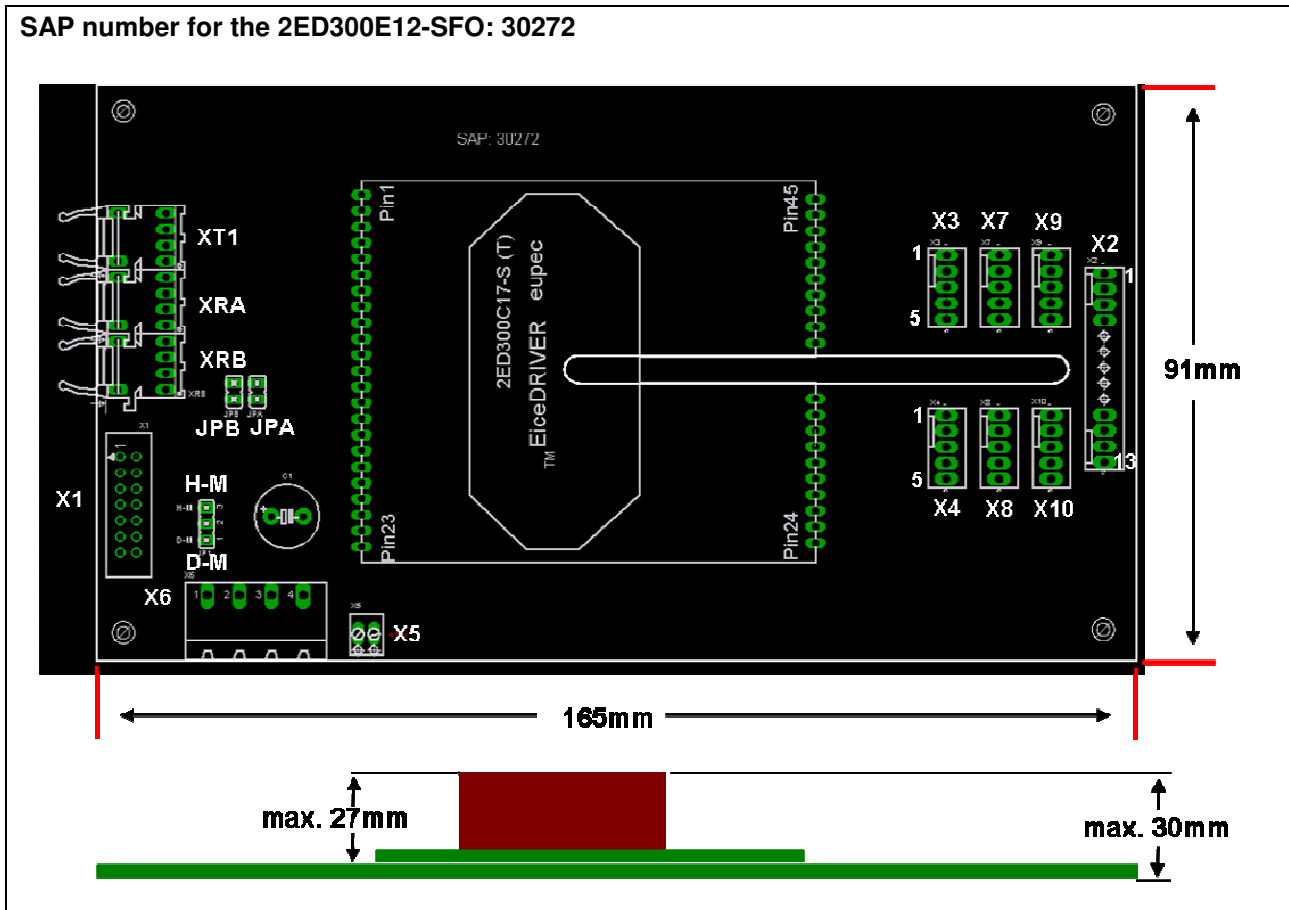

Figure 3 Dimensions of the 2ED300E17-SFO
The 2ED300E17-SFO outline assembled with driver is shown in Figure 3.
Electrical interface is simply activated by applying suitable signals1 to appropriate pins in connector X1 as described in chapter 2.4, Table 4 and Table 5. Jumpers JPA and JPB visible on Figure 3 in that mode must be open.
When IGBT is driven using optical interface the fiber optic cables should be connected to receiver XRA in order to drive channel A and respectively XRB to drive channel B. Jumpers JPA and JPB in that case must be closed (Figure 3). No electrical signals except power supply connected to X1 are needed. Other connections should be removed. Keeping power supply connected to X5 or X6 and leaving X1 completely unconnected seems to be the easiest solution.
- Direct mode – means that both channels A and B are working accordingly to PWM signals. It is possible to switch on both channels A and B at the same time. This operation mode can be activated by setting the JP1 jumper on position marked as D-M (shorting pins 1 and 2 on Figure 3). When jumper JP1 is used there is no need to short X1.12 to GND of power supply
- Half-bridge mode is especially useful when IGBTs are driven in half bridge configuration. By proper selection of capacitor values C4 and C5 the required dead time between channels A and B can be provided. This operation mode can be activated by setting the JP1 jumper on position marked as H-M (shorting pins 2 and 3 on Figure 3). When jumper JP1 is used there is no need to short X1.12 to VDC. Table 8 shows how dead time depends on these capacitors value. The dead time with not connected capacitors is 1,6μs.